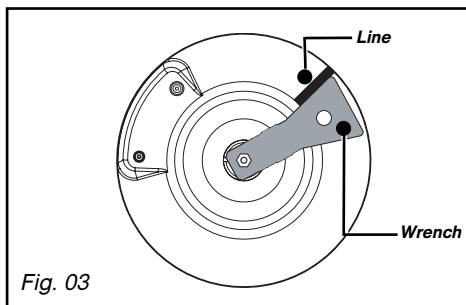

Fig. 03
In an existing system, a soft pipe fitted with clamps whose service life is five years may be used. It is necessary in this case to use an adaptor without forgetting to fit a sealing washer between the adaptor and the hob's bent (Fig. 03).
- Turn the wrench clockwise until the line appears on the other side (Fig. 03).